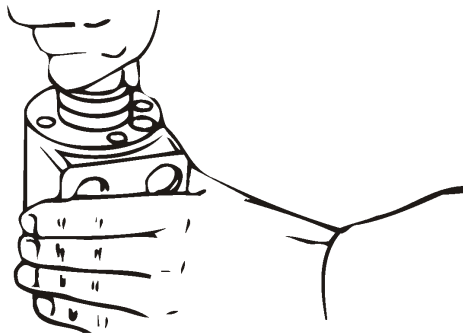

Figure 5-28, Output Shaft In Position
9. Install the needle thrust bearing, then the bearing race onto the output shaft. Pull the output shaft partially out of the housing. Push all three parts into the housing together (Figure 5-28). The bearing race must rotate freely when in position.